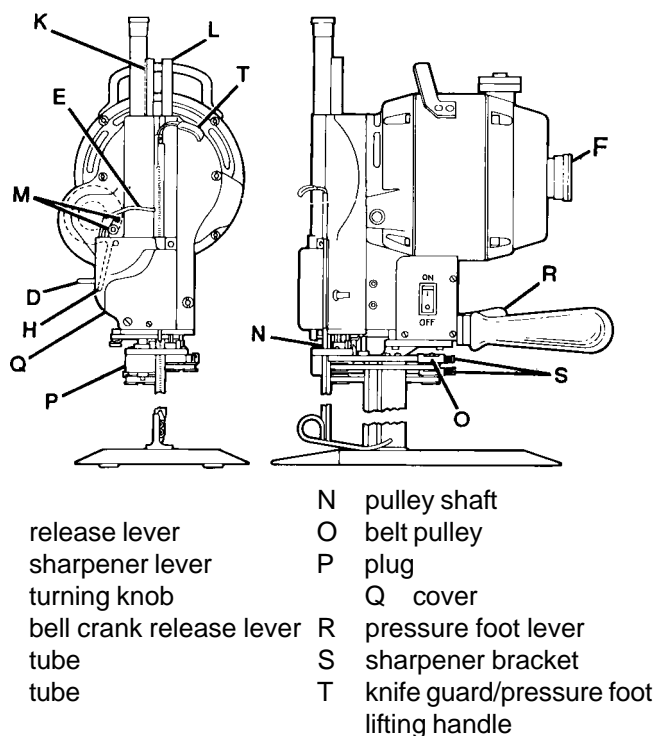

Figure 2. Controls and Adjustments
1. Check that the electrical supply current and voltage that the machine is connected to are the same as stamped on its name plate. For three-phase machines, also check that the direction of rotation is correctly set by the turning knob (Figure 2, F). Refer to the tag attached to all three-phase machines for detailed instructions.
2. Make sure that the sharpener is in the locked position. To do this, push in the turning knob (Figure 2, F). While depressing the turning knob, turn the machine over a few revolutions by hand to see if the knife reciprocates easily. If the knife does not move easily, the sharpener may be in the unlocked position.
3. To lock the sharpener in place, lift the release lever (Figure 2, D) and press the sharpener lever (Figure 2, E) to release the sharpener. Raise the sharpener bracket (Figure 2, S) by hand to lock it in place. Once the sharpener is locked in place, you may disengage the release lever and sharpener lever. Repeat step 3 to ensure that the sharpener is now locked. If not, repeat this step.
- 6.2 Press the bell crank release lever (Figure 2, H) to disengage the sharpener mechanism from the motor.
2. Raise the knife guard/pressure foot by depressing the pressure foot lever (Figure 2, R) and lifting the knife guard/pressure foot lifting handle (Figure 2, T). Raise the pressure foot only enough to clear the material being cut.
4. Using the pressure foot lever (Figure 2, R) and the knife guard/pressure foot lifting handle (Figure 2, T), lower the pressure foot so that it is slightly above the material being cut. This will prevent the material from reciprocating.
6. When you are not making a cut, or when the machine is not in use, keep the knife guard/pressure foot lowered to the baseplate by depressing the pressure foot lever (Figure 2, R).
2. Make sure the knife guard/pressure foot is lowered to the baseplate by depressing the pressure foot lever (Figure 2, R).
Remove the cover (Figure 2, Q) and clean any lint from around the screw mechanism in the sharpener.
2. Drop the knife guard/pressure foot using the pressure foot lever (Figure 2, R on page 3), located next to the machine operating handle.
3. Press the sharpener lever (Figure 2, E) downward with a slow, firm pressure to engage the sharpening mechanism. Too fast a lever action may cause the lever to lock. If this occurs, lift the release lever (Figure 2, D) and start over again.
2. Using the turning knob (Figure 2, F) raise the blade to top position.